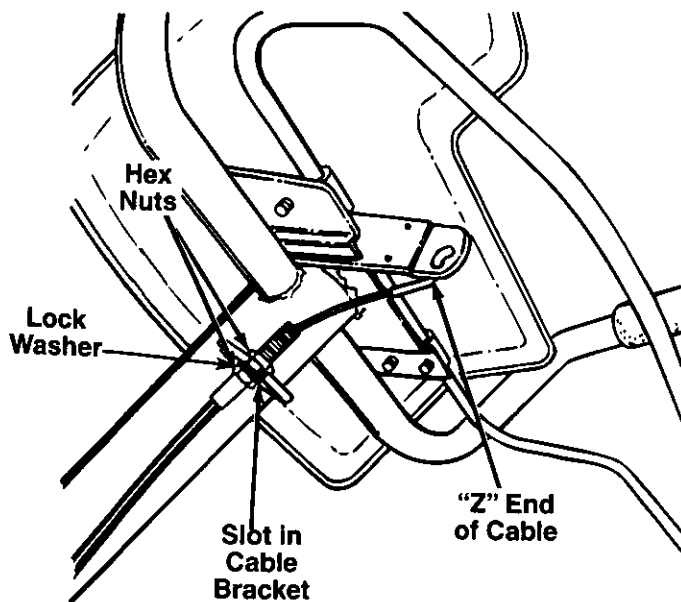

FIGURE 6.—Viewed beneath handle panel.
1. Route the clutch cable through the cable clip underneath the handle. Be careful not to bend or kink the cable. Refer to figure 3. Remove one hex nut from the threaded casing on the end of the cable. See figure 6.
3. Pull the cable upwards to obtain slack, and hook the "Z" end of the cable into the bracket on the clutch control (beneath the handle panel) as shown in figure 6 (from right to left). Tighten the nut against the cable bracket.
If the belt turns with the unit in neutral, adjust by moving the hex nut below the cable bracket **down** two complete turns. See figure 6. Tighten the upper hex nut against the bracket.